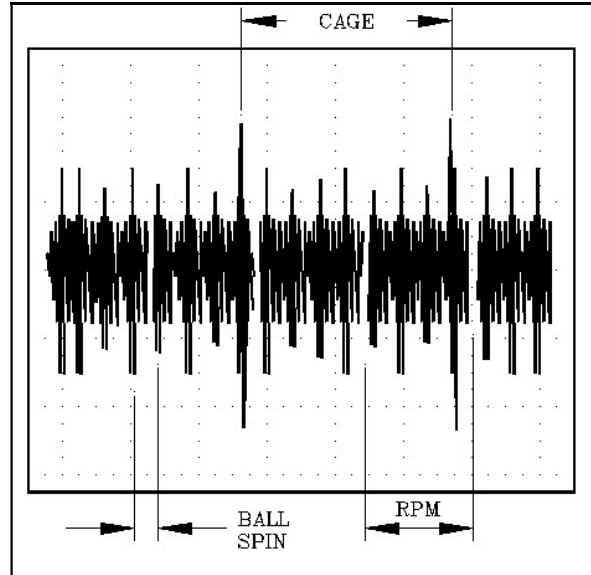

Fig. 10.4
- The oscilloscope should have a display similar to figure 10.4. This display represents the actual vibration signal measured by the accelerometer in real time. By observing the display for excessively large spikes, which are produced by a defect, or defects, present in the bearing, and measuring the time period between spikes, specific bearing defect frequencies may be determined.